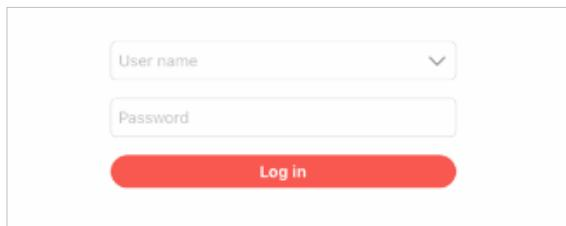

Figure 18: User Login screen
2. Once booted, the CloudHRV™ Application will display the **User Login** screen (Figure 18).